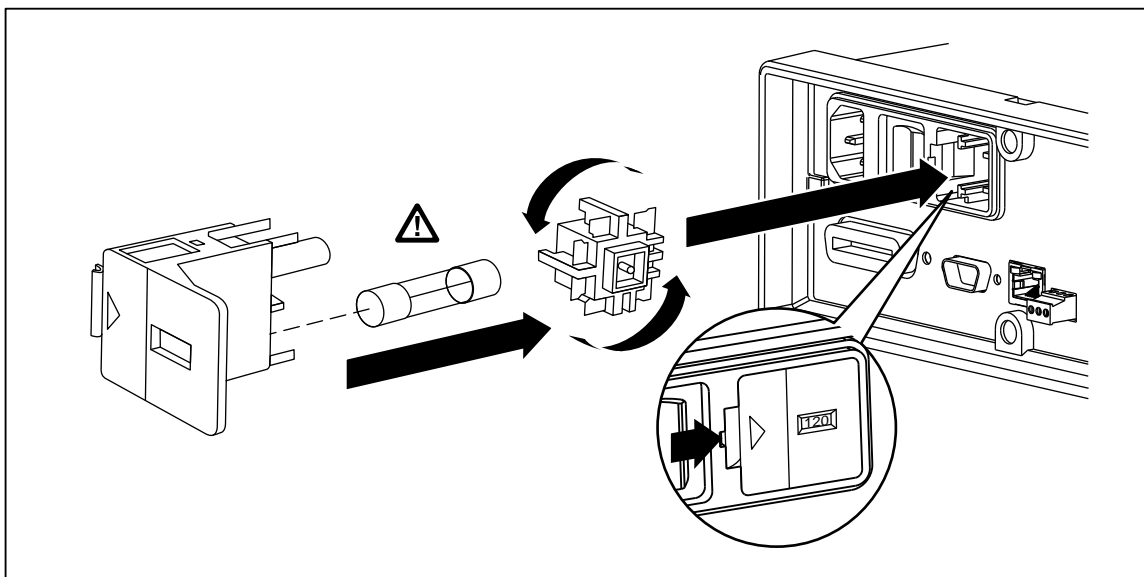

Figure 2-1. Replacing the Line Fuse
2. Insert a small screwdriver blade in the narrow recess to the left of the fuse holder and pry to the right until the holder pops out, as shown in Figure 2-1.
2. Remove the fuse holder by inserting a small screwdriver blade in the narrow recess to the left of the fuse holder and pry to the right until the holder pops out as shown in Figure 2-1. The Meter is shipped with a replacement fuse of the same rating as the fuse installed in the fuse block.